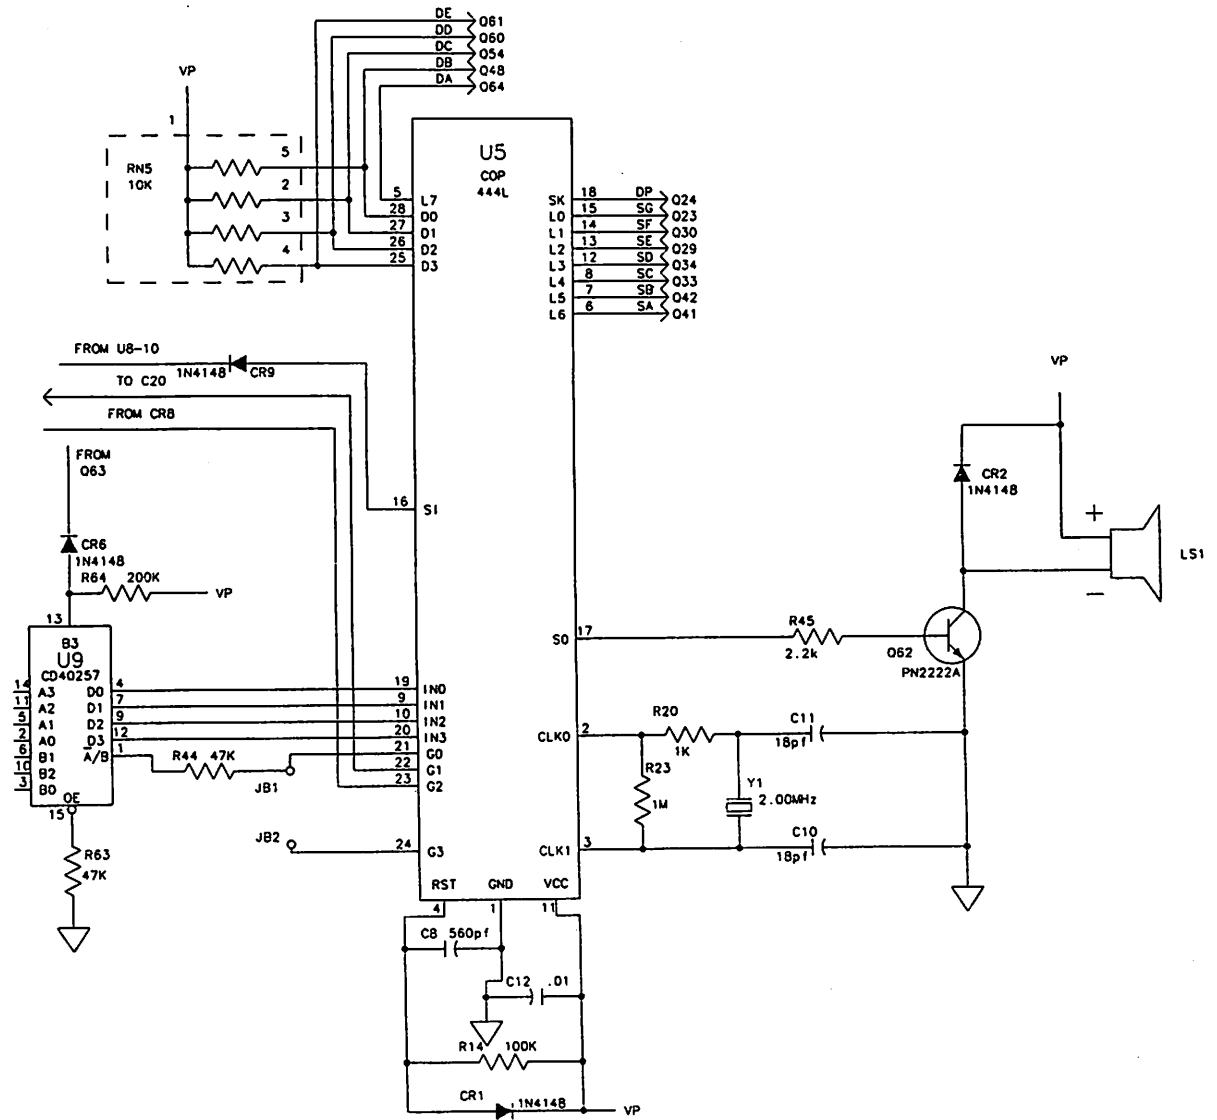

Figure 3-33. Thermometer μ Controller
3.10.2 μ Controller (U1, figure 3-33)